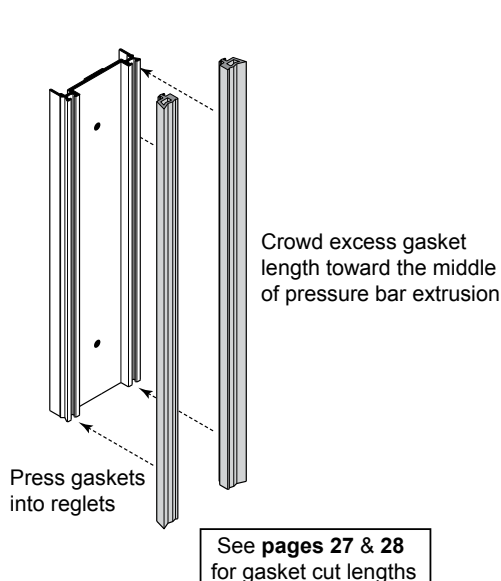

Fig. 33.2
- Install P4606 gasket into vertical mullions. See **Fig. 33.2** and **Fig. 34.3**. Vertical mullion gaskets run beyond the horizontals. The vertical gasket will run through the vertical splice joint, set in fresh sealant at the splice. Notch darts off the gasket as required for proper fit.
- G. At SSG verticals, refer to Step 8 to apply the water dams. See **Fig. 33.2**.